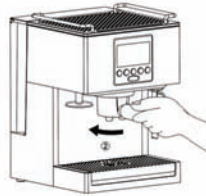
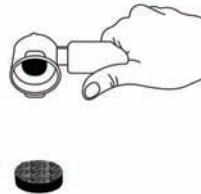
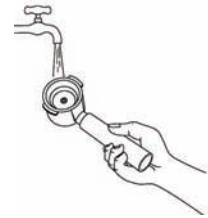

Fig. 5
Fig. 6
Fig. 7
- 11.18. Remove the filter handle by turning it to the left (Fig. 5) and throw out the used bag or coffee grounds (Fig. 6). Clean the filter with water (Fig. 7).
- 12.17. Remove the filter handle by turning it to the left (Fig. 5) and throw out the used bag or coffee grounds (Fig. 6). Clean the filter with water (Fig. 7).
**CAUTION!** While holding the brew coffee button  (F) remember that after when a single cup is filled to the maximum (ca. 90 ml), the machine will automatically stop the brewing process (you will hear two sound signals) and save the settings.
**CAUTION!** During programming pay attention if the **P1** or **P2** indicator are flashing. If they stop flashing for any reason the **P1** or **P2** stops flashing, start programming mode again by pressing and holding both the single/double cup select button  (B) and temperature select button  (D) for 2 seconds and follow the steps up to paragraph 11.16.
**CAUTION!** In order to delete the program **P1** or **P2** settings press and hold both the temperature select button  (D) and the steam select button  (E).
- 13.14. Remove the filter handle by turning it to the left (Fig. 5) and throw out the used bag or coffee grounds (Fig. 6). Clean the filter with water (Fig. 7).